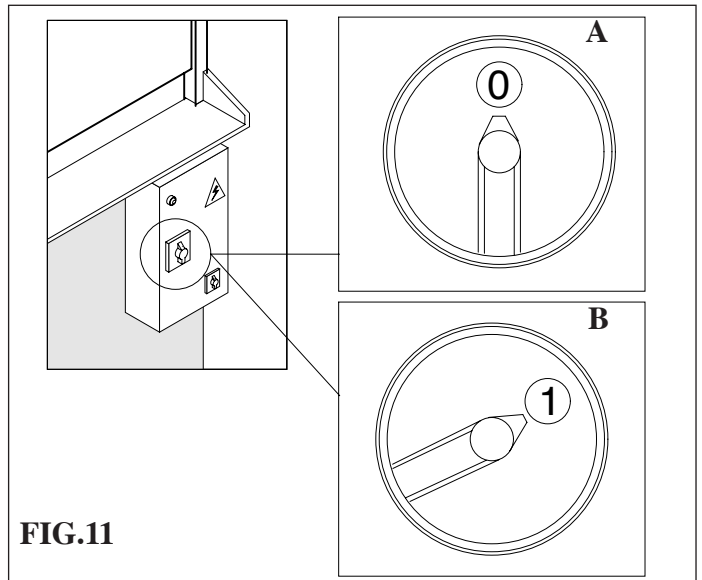

FIG.11
Turn the switch on the 0 position in the F85 CV-F120-F240 models (pos. A fig.11), in the F85 (pos. A fig.11B).
- The machine's general switch is turned on 0 (pos.A fig. 11).
Turn on the machine's general switch (fig.11 pos.B).
The machine's general switch is turned on 0 (pos.1 fig. 11).
Turn on the machine's general switch (pos.1B fig.11).
Then, after the machine has cooled down, switch off the flue's suction and the vents (pos. 0 in fig. 11), and finally turn off the machine's general switch.